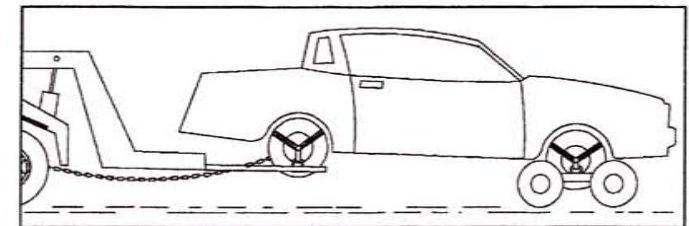

Fig. 4
- 10) Before towing, secure both tires of the towed vehicle to the dolly using tie down straps (see fig. 4).